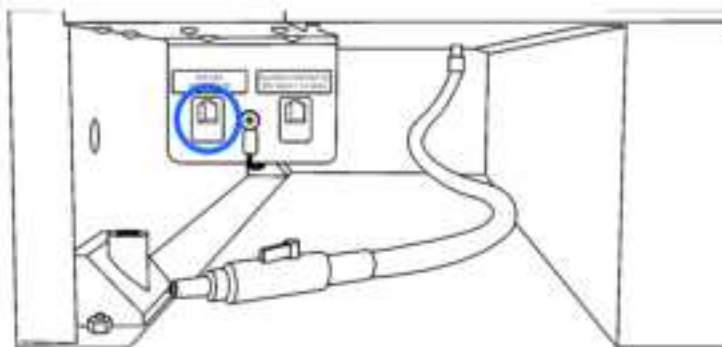

Figure 2 Data port on MaxQ 8000
9. Locate the RS-232 data port on the asset (shown in Figure 2) to which the Element-D will connect. The interface is located on the lower front left corner of the cabinet behind the kick plate.